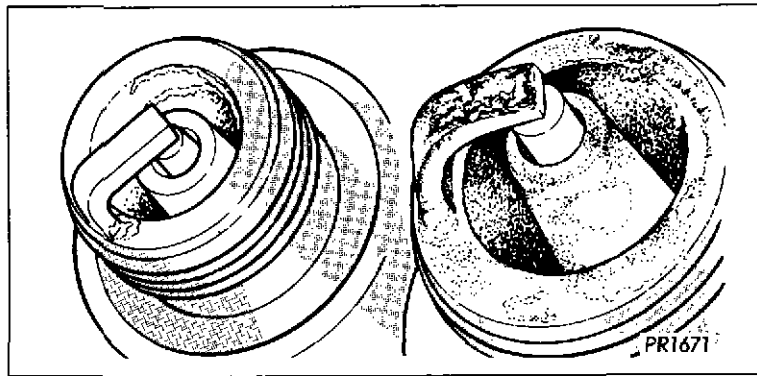

Fig. 15—Normal and Cold Fouling
- b. Wet fouling (Fig. 15). This condition tells you that the plug has drowned in excess oil. In an old engine, worn rings or excessive cylinder wear are probable causes. Remember that break-in fouling of new engines may occur before normal oil control is achieved. In new or recently overhauled jobs, such fouled plugs may be cleaned and reinstalled.
- c. Overheating (Fig. 15). This condition is indicated by a white or light gray insulator which appears "blistered". When this condition exists, electrode wear rate will be considerably in excess of 0.025 mm (0.001 in.)/1600 km (1000 miles). Over-advanced ignition timing, detonation, and cooling system stoppages are probable causes.